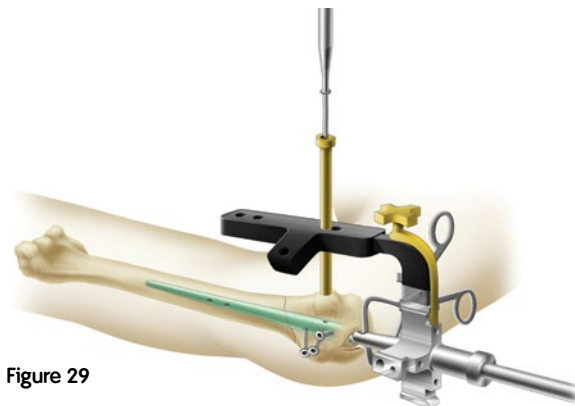
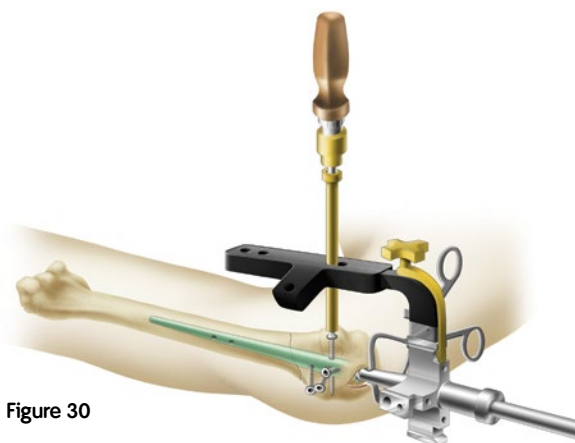

Figure 29
Figure 30
10. Remove the 3.2mm Silver Inner Drill Sleeve and insert the 3.5mm Hex Driver with the appropriate length 5.0mm Cancellous Screw attached. (Figure 29) The head of the screw should be nearly seated when the laser marked ring on the 3.5mm Hex Driver is even with the Humeral Gold Outer Drill Sleeve (Figure 30).